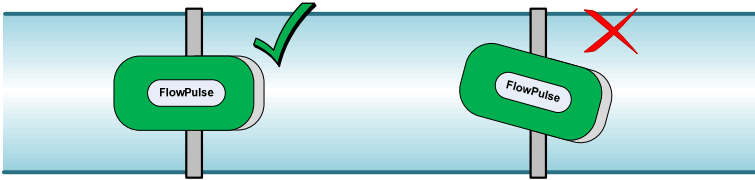

Figure 3: FlowPulse correctly aligned along the pipe axis.
- Ensure that the Flow Pulse is aligned along the pipe axis, as illustrated in Figure 3: